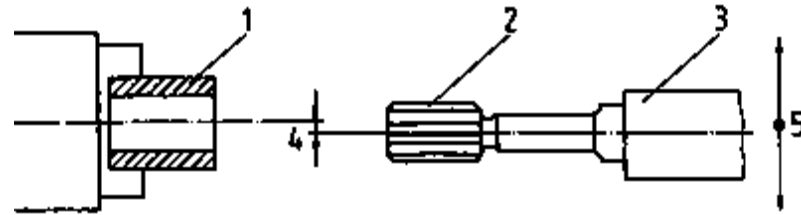

Figure 13 Tailstock adjustment
Machine reamers are clamped in the tailstock. Prior to reaming it is to be made sure that the tailstock is in central position, i.e. that the axis of rotation of the workpiece and the centre line of the tool are in line. If necessary, the tailstock is to be laterally re-aligned as per Fig. 13 since otherwise the nominal diameter cannot be maintained because the tool will cut at one side of the hole only.
- The axis of rotation and axis of the tailstock must be in line. In case of deviations, re-alignment is to be made as per Fig. 13.**
- The use of the floating holder allows for compensation of minor offset between the axes of the workpiece and of the tool. Greater differences are to be corrected as per Fig. 13.**